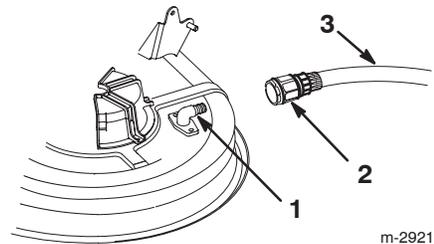

Figure 53
- Attach the coupling (not included) to the mower washout fitting and turn the water on high (Fig. 53).